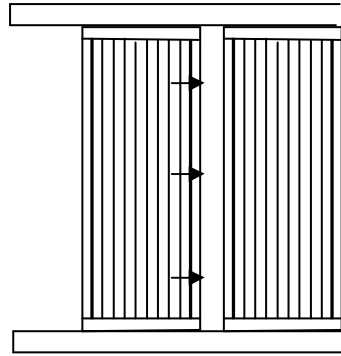

Fig 2
3. Turn the assembly on to the top end of the back panel and fix the remaining back panel between the posts ensuring it is firmly butted up to the fixed panel. Again use two screws either side as Fig 2.